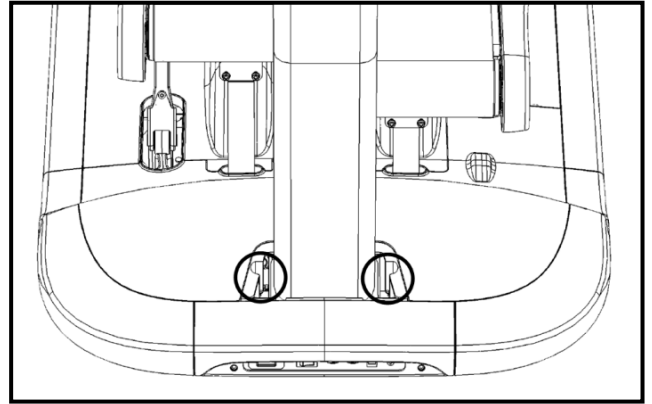

Fig. 27
25. Install the front alternator shroud (Fig. 27) and secure it in place by installing the corresponding two Phillips head screws at the circled locations.